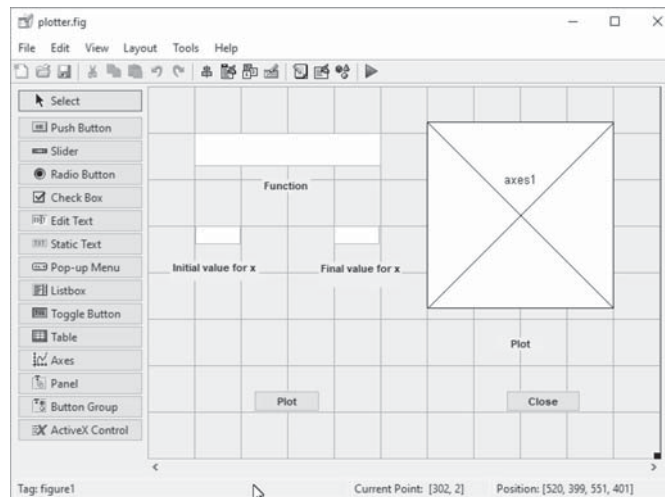

FIGURE 8.5: GUI with objects stretched to its final size and final labels.
3. We can stretch each of the objects to the desired final size. We also change the **String** property of each object as we can see in Figure 8.5. To change the **String** property, we double click on each one of the objects to open the **Property inspector** and change the **String** in the **Static texts**. The **Font weight** property is changed to **bold**. For each of the remaining elements we clear the **Strings**.